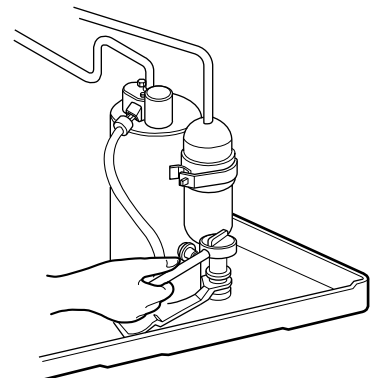

Figure 10
4. Remove the 3 nuts and the 3 washers which fasten the compressor. (See Fig. 10)